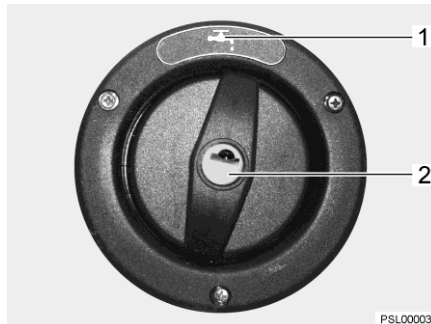

Fig. 95 Cap for the drinking water filler neck
The drinking water filler neck is indicated by the symbol "☞" (Fig. 95,1). The cap is opened and closed using the key for the external flap locks.
- Insert key into locking cylinder (Fig. 95,2) and turn a quarter turn in an anticlockwise direction.
- Open drinking water filler neck (Fig. 95).